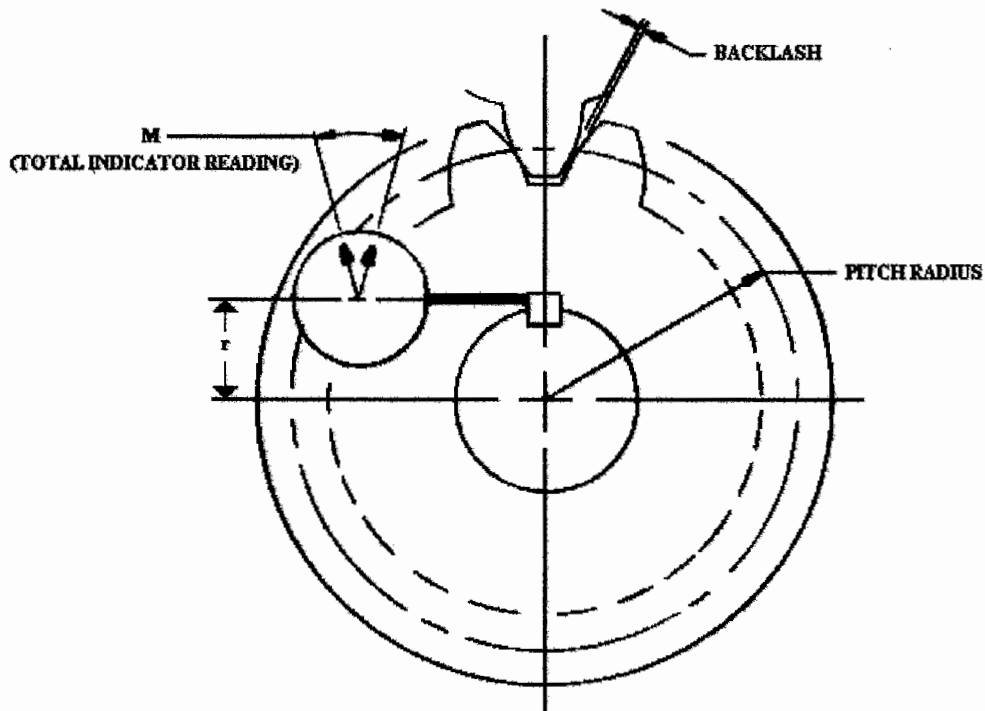

FIGURE 2
- 7.4 Measure the distance from the center of the shaft (500) to the contact point between the indicator and the key (see Figure 2). This is the “r” value in the equation in step 7.6.